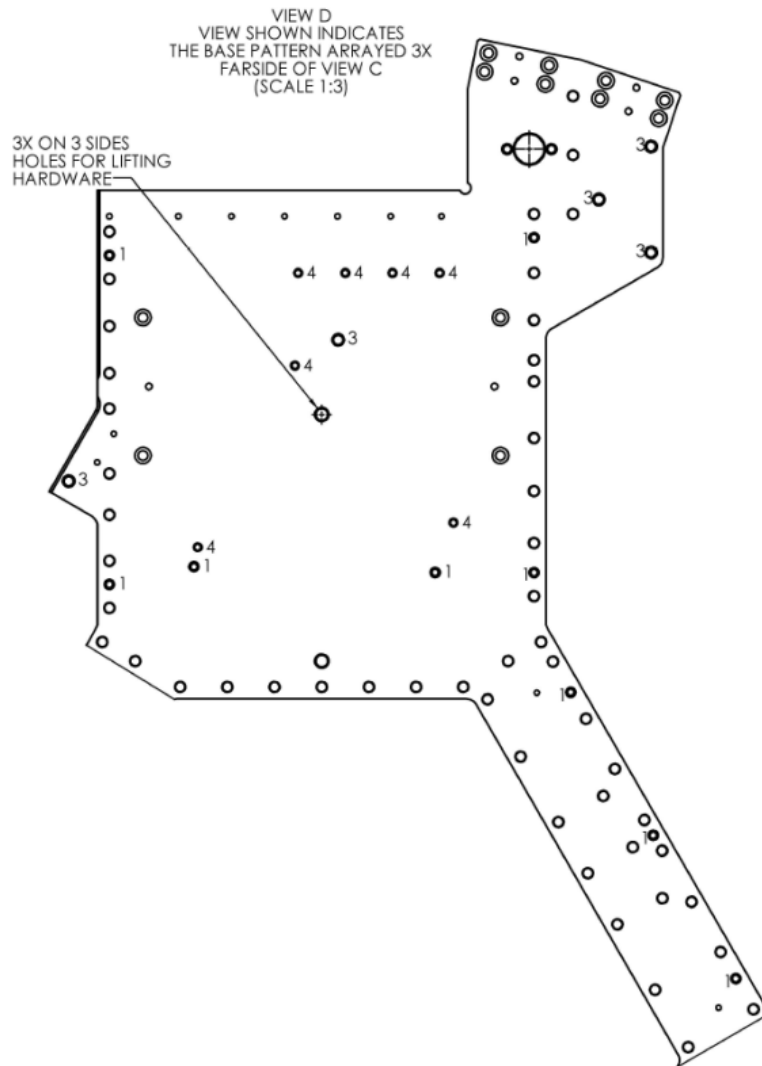

Figure 33: Locations of the (3) 1/2-13 tapped holes on D0902279 used for the lifting of Stage 1
Note: There are (3) 1/2-13 tapped holes in D0902279 Stage 1 Base plate available for lifting as shown in Figure 33.